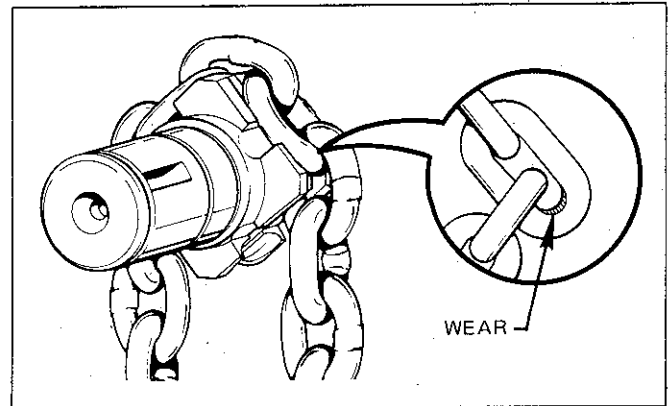

Figure 5-1. Check Chain Wear at Bearing Surfaces Between Links.
(2) **Coil Type Load Chain.** Clean chain for inspection. Examine visually for gouges, nicks, weld splatter, corrosion or distorted links. Slacken chain and check bearing surfaces between links for wear, figure 5-1. Greatest wear will often occur at sprocket at high or low point of lift, particularly when hoist is subjected to repetitive lifting cycles. Case hardness of chain is about .015" deep. Chain must be replaced before the case is worn thru. Also check chain for elongation using a vernier caliper (Figure 5-2). Select an unworn, unstretched section of chain (usually at slack or tail end) and measure and record the length over the number of chain links (pitches) indicated in figure 5-2. Measure and record the same length of a worn section in the load side of the chain. Obtain the amount of wear by subtracting the measurement of the unworn section from the measurement of the worn section. If the result (amount of wear) is greater than the amount specified in the "ALLOWABLE CHAIN WEAR"